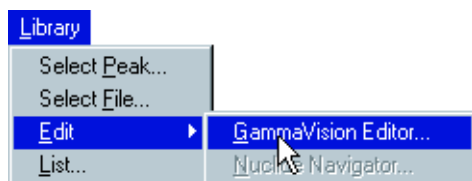

Fig. 15
1.14 Choose Library, Edit, GammaVision Editor (Fig. 15). A window appears containing the nuclides included in this library (and the peak information for each peak).